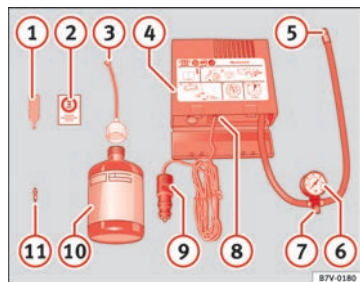

Fig. 168 Standard representation: contents of the tyre mobility set.
The tyre mobility set is located underneath the floor covering in the luggage compartment. It includes the following components → Fig. 168:
- Use the enclosed extractor to unscrew the valve insert → Fig. 168 ① and place the valve insert on a clean surface.
- Vigorously shake the sealant bottle → Fig. 168 ⑩ for several seconds.
- Screw the inflator tube → Fig. 168 ③ securely into the sealant bottle in a clockwise direction. The seal on the mouth of the bottle moves automatically.
- Remove the lid from the filling tube → Fig. 168 ③ and screw the open end of the tube into the tyre valve.
- Screw the valve insert again with the corresponding tool ⇒ Fig. 168 ① into the tyre valve.
- Securely screw the tyre inflator tube ⇒ Fig. 168 ⑤ of the compressor into the tyre valve.
- Check whether the air bleed screw ⇒ Fig. 168 ⑦ is closed.
- Attach the connector ⇒ Fig. 168 ⑨ to a 12 volt socket of the vehicle ⇒ page 117.
- Connect the air compressor with the ON/OFF switch ⇒ Fig. 168 ⑧.
- Keep the air compressor running until it reaches 2.0 to 2.5 bar (29-36 psi / 200-250 kPa) ⇒ ⚠. **Maximum operation time 8 minutes** ⇒ ⑩.
Screw the inflator tube ⇒ Fig. 168 ⑤ again and check the pressure on the gauge ⑥.